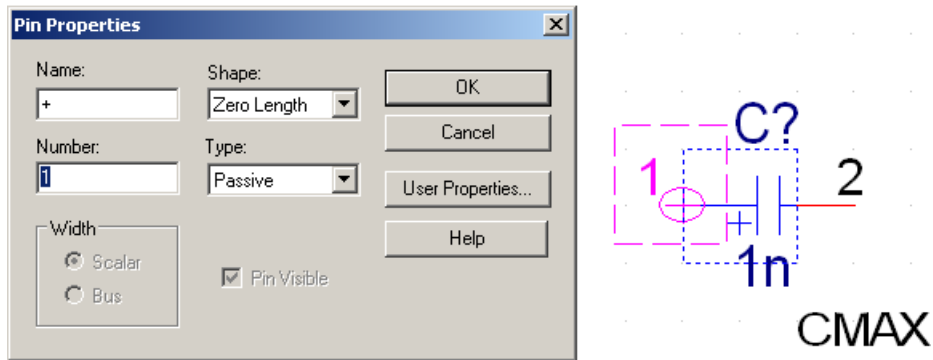

Figure 5. Edit Part window and Pin Properties dialogue box for correcting the numbering of the pins of the electrolytic capacitor.
2. The positive pin is shown as a circle on the left. Select it and and choose Edit > Properties. . . . This brings up the Pin Properties dialogue box, shown in figure 5.